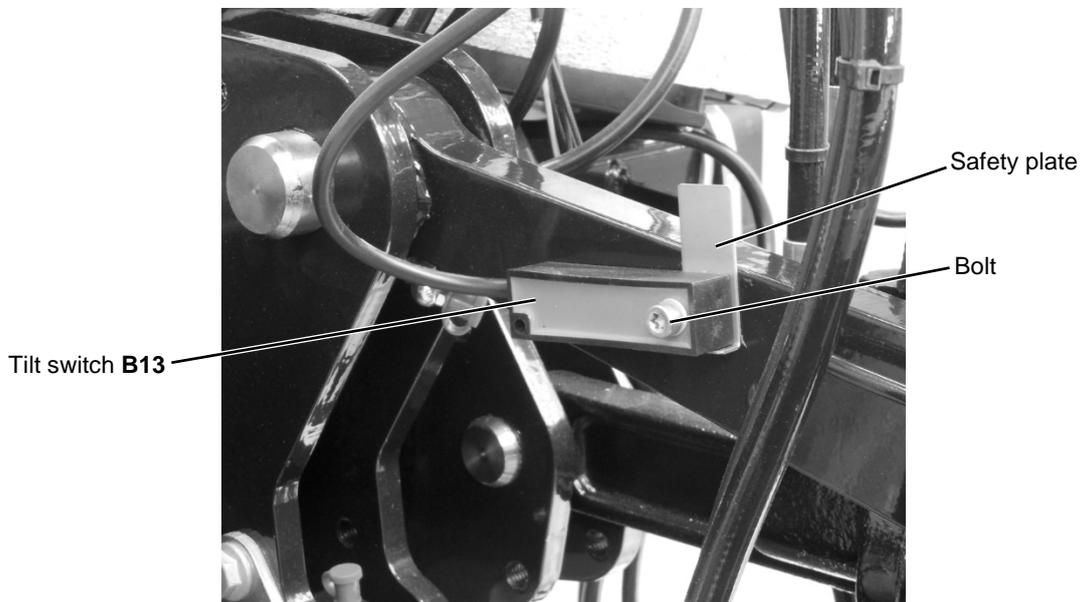

Figure 46: Tilt switch **B13** (2)
- ▶ Release the screw on tilt switch **B13** on the right control rod of the torsion frame (see Figure 46).